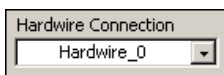

Figure 2. Hardware Connection Drop-Down Menu
- Designate whether the channel is connected to a hardware by selecting from the drop-down menu as shown in Figure 2.